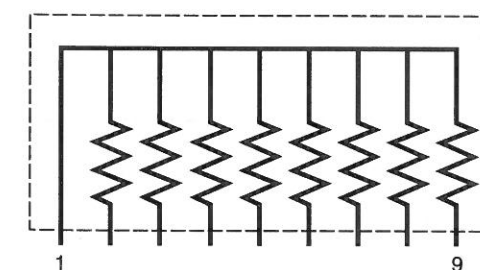

Figure 2.5 SIP Resistor Network (Bussed)
1. DIP (Dual In-Line Package) switches can be combined with resistors packaged as a SIP (Single In-Line Package) to make multiple logic switches on a breadboard. A SIP resistor package is shown in Figure 2.5. If you measure the resistance between pin 1 and any other pin, you should get the value of 1 resistor. Measuring between any two other pins will give the value of two resistors added together.